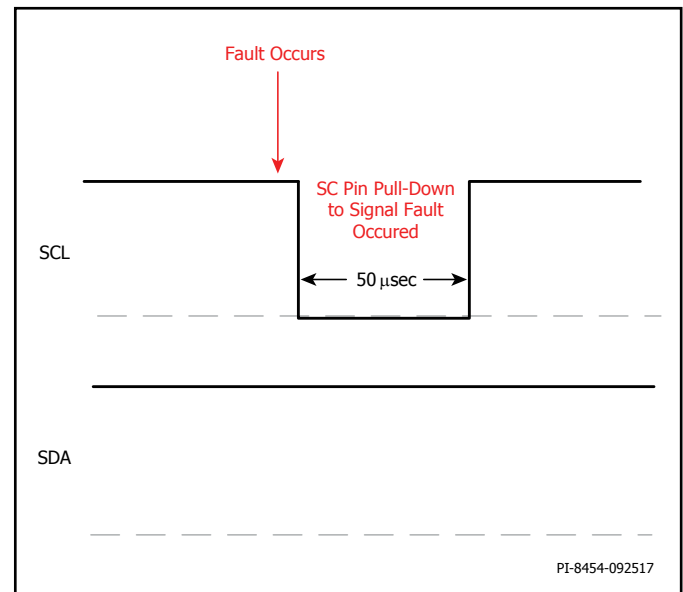

Figure 19. Interrupt Mask During Idle I²C.
1. When the SCL pin is in idle mode (see Figure 19), the fault interrupt will happen as soon as the fault is detected. The interrupt pulls down the SCL pin for 50 μ sec then releases it back to HI State.